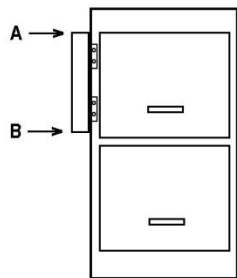

fig. 4
4. Place the file bar against the edge of the file drawer(s) being locked. Align the top of the file bar with the top of the top drawer (fig. 4, point A). Be sure that the bottom of the file bar assembly does not obstruct file drawers below (fig. 4, point B).